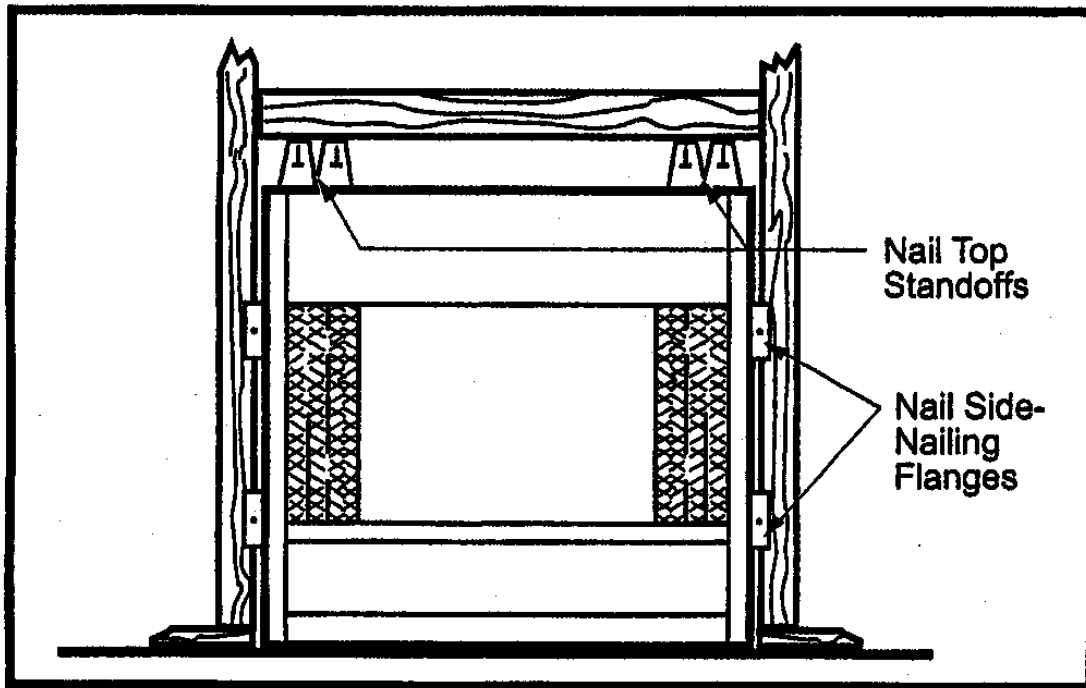

Figure 3
- Four (4) nailing flanges are supplied with the fireplace (located on the fireplace hearth). To level the box and secure it firmly in place, remove the nailing flanges from the hearth and install at the sides of the fireplace as shown in Figure 3